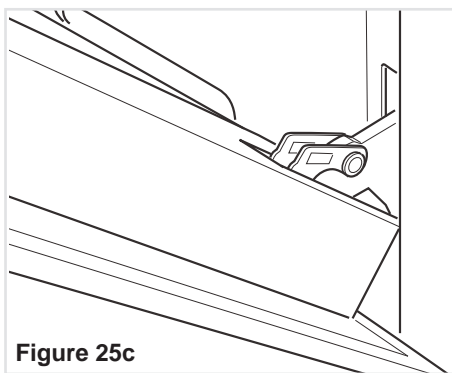

Figure 25c
1. Make sure the door is locked open (see fig. 25c).